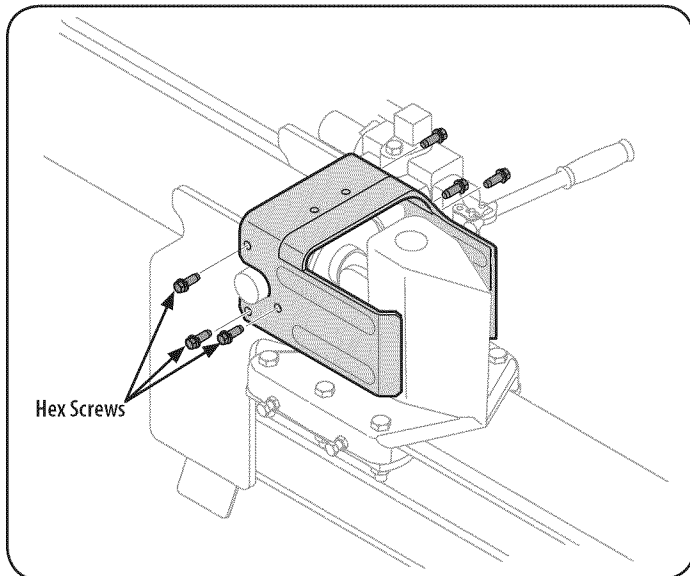

Figure 8
19. Attach the dislodger over the wedge assembly and secure it to the weld brackets with the previously removed hex screws. See Figure 8.